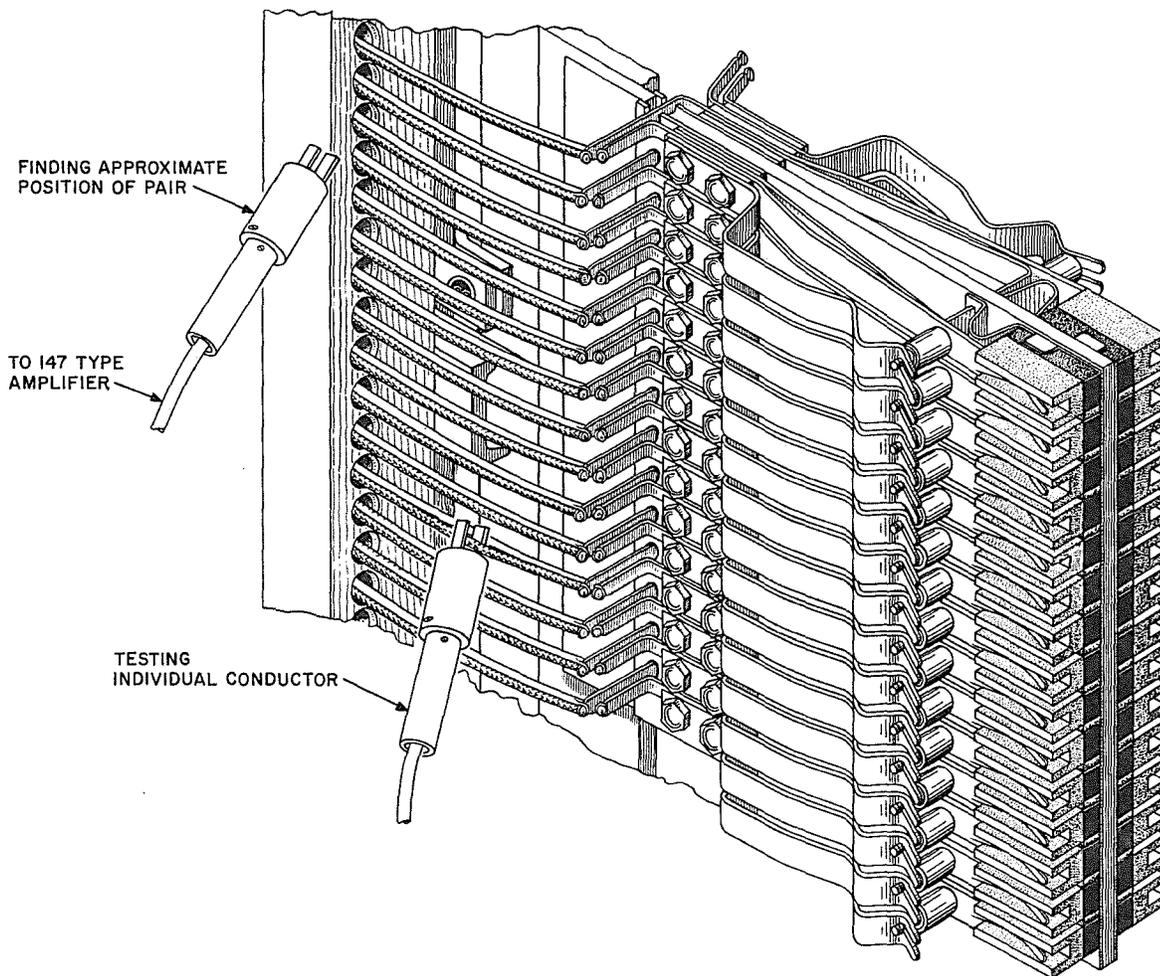

Fig. 5—Listen at Fanning Strip
- (d) Using the 79D Test Set and a 147B amplifier, listen along the fanning strip over the conductors for the presence of tone. The typical positions in which the 79D set should be held are shown in Fig. 5. The positions may be varied slightly depending on how the conductors pass through the fanning strip to the soldering lugs. The presence of tone can be checked by